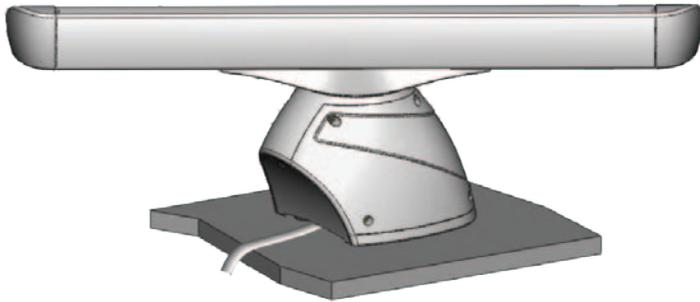

Figure 7
3. Route the power and network cables through the front of the radar (Figure 7), or through a hole (Figure 8). Avoid excessively bending or twisting the cables.